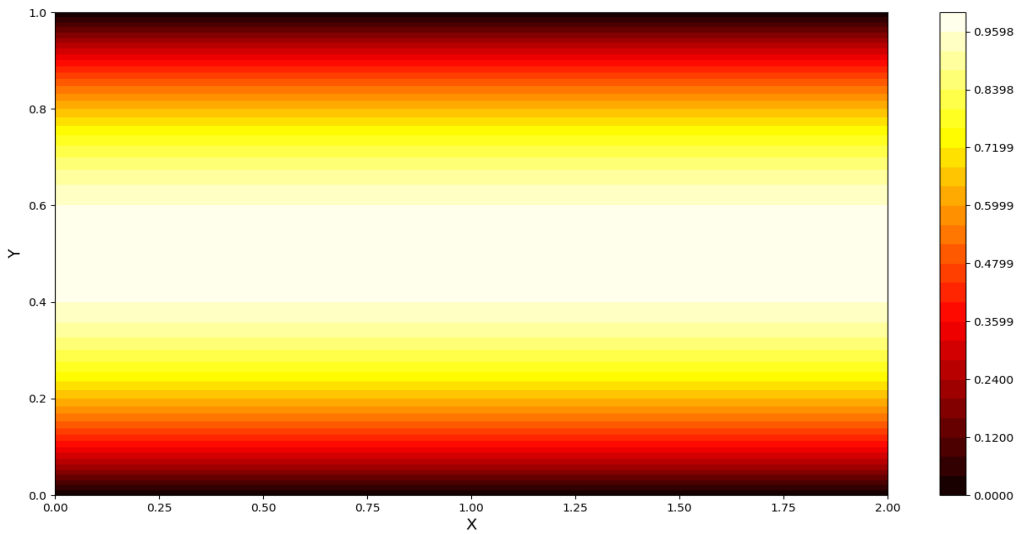

Figure 1: Velocity iso-contour at steady state
- Figure 1. Shows uniform velocity distribution in x direction. It is evident from the contour that U-velocity varies only in y direction. Near the wall the velocity is minimum (=0) due to no-slip condition and near the centerline it is highest ($U_{peak} = 1.0$)